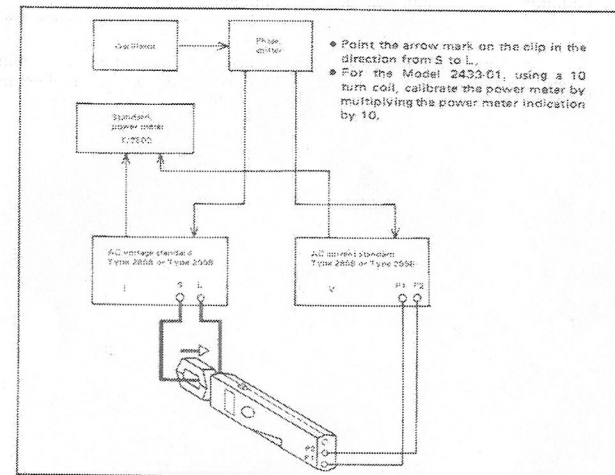

Figure 2-3. Wiring Diagram for Model 2433 Inspection and Adjustment
- (1) Adjust the analog output voltage with a load resistor $1\text{ M}\Omega \pm 1\%$ connected in parallel to the digital voltmeter inputs.
- (2) Always perform power meter adjustments strictly in the order they are described in this manual and if a part of procedure must be repeated, observe the correct order of adjustments.
- (3) Adjust the clip-on AC power meters according to the indication of an AC voltage/current standard or standard power meter when the 10 turn coil for the Model 2433-01 or one turn coil for the Model 2433-02 is used.
- (4) The automatic ranging method is used for the Model 2433, so, when adjusting Lo (low) range, confirm that the power meter is in low range mode.
- (5) Adjust the power range at $\cos \phi \approx 1$ and use the current for fine power adjustment.
- (6) Adjust the PCB Ass'y after following items are confirmed using an oscillograph (for zero voltage and current inputs).
- (7) Wire the instruments for inspection and adjustment to the Model 2433 as shown in Figure 2-3.